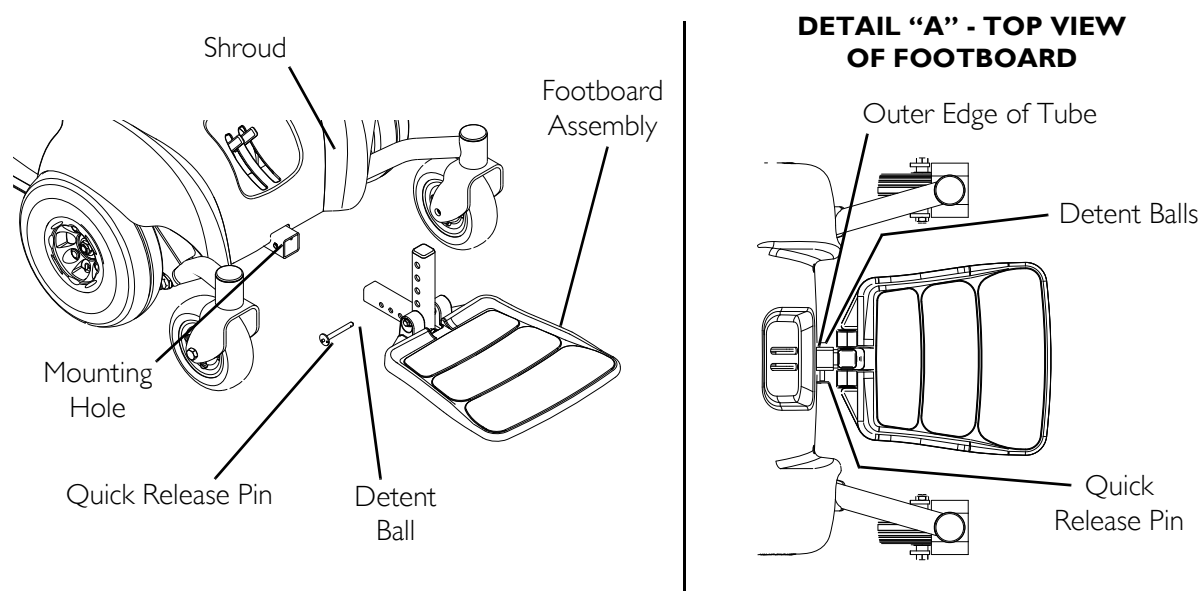

FIGURE 9.1 Removing/Installing the Footboard Assembly
NOTE: For this procedure, refer to FIGURE 9.1 on page 42.
2. Install the quick release pin by depressing the button while sliding the pin in. Ensure that the detent balls are engaged with the outer edge of the tube (Detail "A" of FIGURE 9.1).